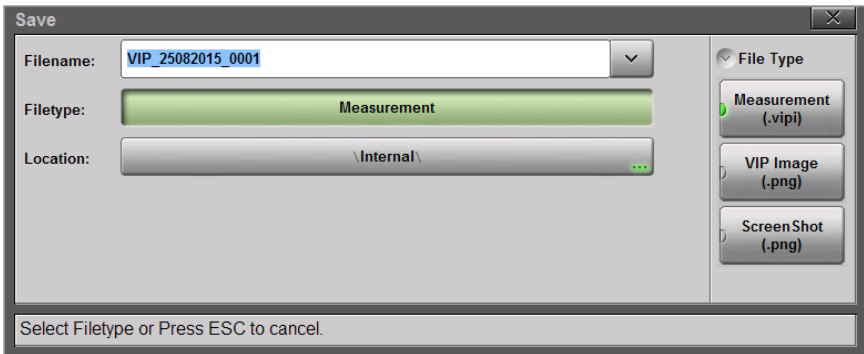

Figure 14-7. VIP File Type
10. To select the type of file to save, press the Filetype button, then press the desired submenu key. See Figure 14-7.
<p>File</p> <p>Save</p> <p>Recall</p> <p>File Mgmt</p>	<p>Save: Press this key to open the Save dialog (Figure 10-1 on page 10-3). This function is the same as pressing the keypad menu key Save (7).</p> <p>You can choose to save the VIP image and analysis results, the VIP image alone, or the current display screen. See Figure 14-7 on page 14-8.</p> <p>Recall: Press this submenu key to open a previously saved VIP measurement file (.vipi extension) or VIP image (.png extension). Refer to “Recall a VIP Measurement (VIP Mode Only)” on page 10-13. Note that a captured screen shot of the display cannot be recalled and analyzed.</p> <p>File Mgmt: Press this submenu key to display the “File Mgmt Menu” on page 10-29. This menu contains basic file management functions including renaming files or folders, creating folders, copying, pasting, and deleting files or folders. Many of the file management functions are duplicated in the Save and Recall menus for user convenience.</p>